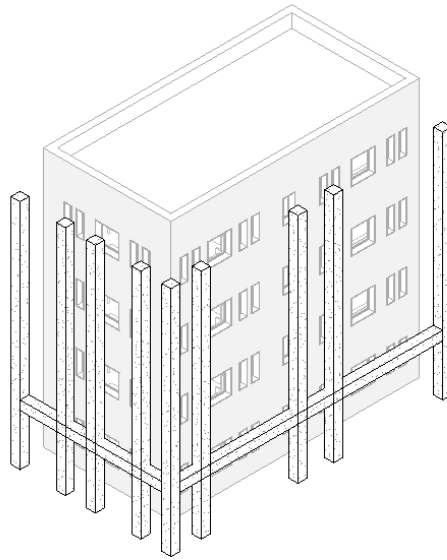

Figure 16-65 The 3D view of the added structural elements
23. Right-click on the **ViewCube** tool; a shortcut menu is displayed. Choose **Orient to a Direction > Northeast Isometric** from the shortcut menu; the current view reorients toward the northeast isometric view, as shown in Figure 16-65.